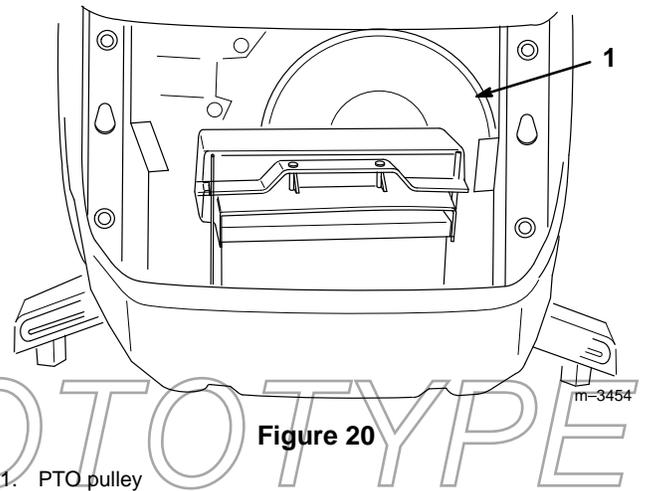

Figure 20
- Remove the belt from around the PTO pulley (Fig. 20). Additional belt slack can be obtained (if needed) by turning the belt tension adjustment knob.